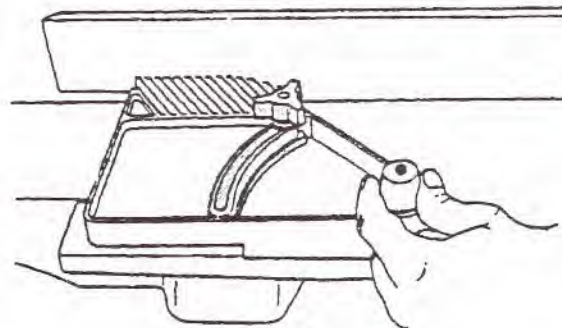

Fig. 19
- b. Turn the knob (5) slightly counter-clockwise (about 1/4 turn) to adjust the tension. See Fig. 19.